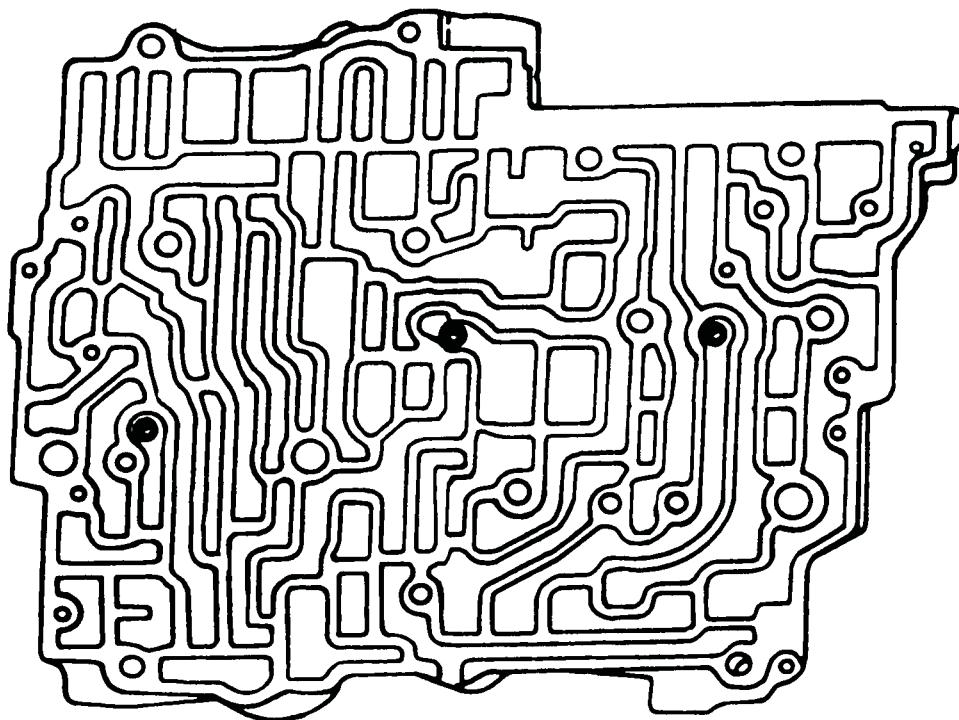
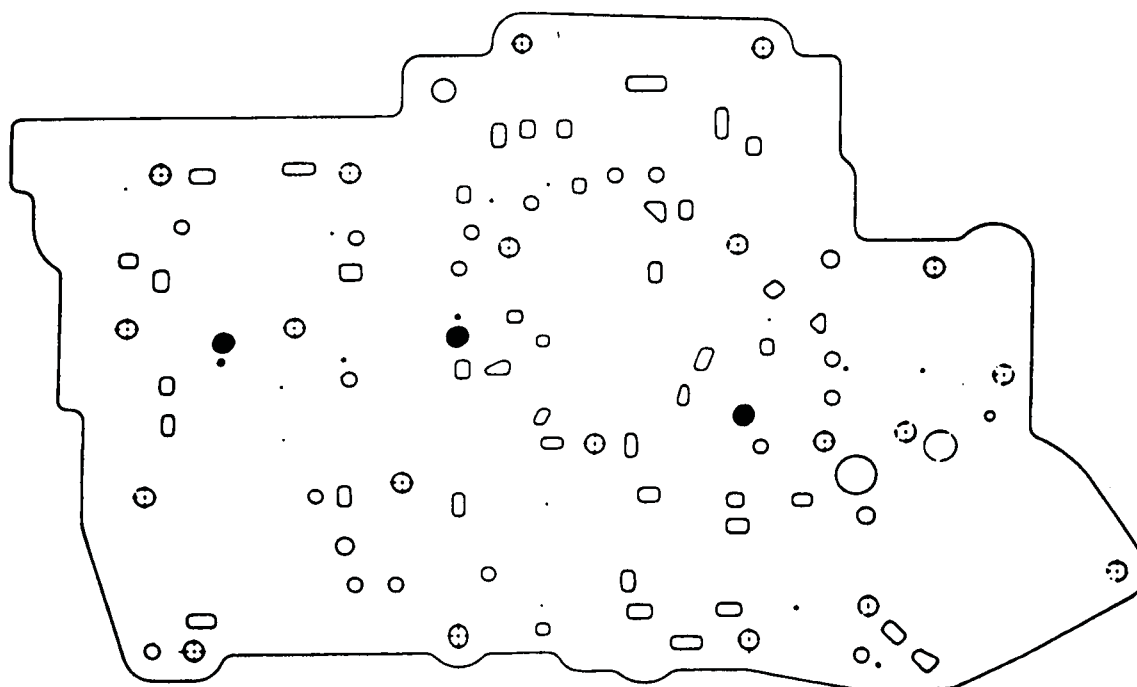

Figure 155
Figure 156
29. Install three checkballs into the valve body in the locations shown in Figure 155 and retain them with a **small** amount of "Trans-Jel", or place them on the spacer plate in the locations shown in Figure 156, and again retain with a **small** amount of "Trans-Jel".